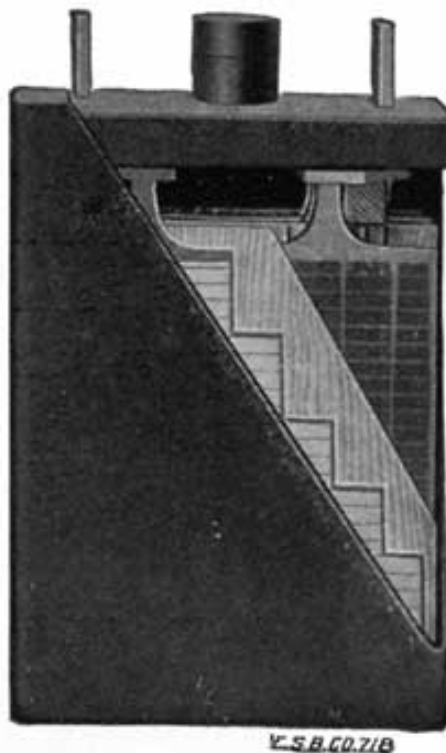

Fig. 326. Exide Cell with Sealed Rubber Jar
1. **The Exide cell** is shown in Fig. 326. It is assembled similar to Exide starting and lighting batteries, except that the plates are considerably thicker, wood and rubber separators are used, and the terminal posts are shaped to provide for bolted instead of burned-on connection. The method of sealing and unsealing the cells is the same as in Exide starting and lighting batteries.